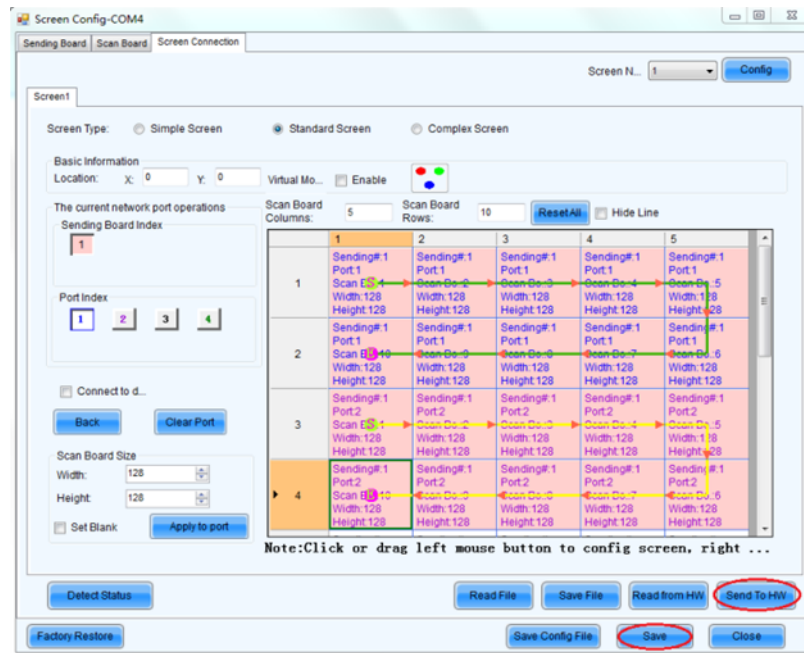

Fig 3-10 Screen Connection with Loaded File
- 1) Click Read File to load the file xxxx.scr stored in the optical disk, as shown in Figure 3-10.